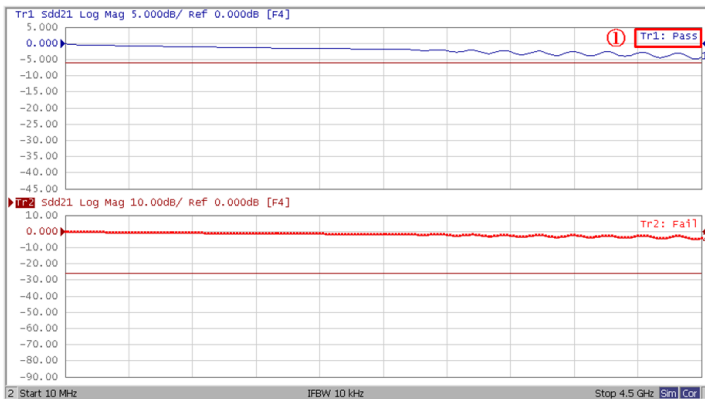

Figure 7-2: Measurement example of SI-07
Observable Results: Read Pass/Fail sign on Trace1 (item1 in Figure 7-2).